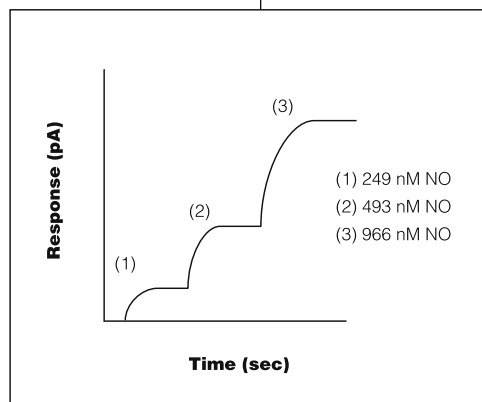

Fig. 7 —Apollo1000
- The output from the Apollo 1000 will look similar to the example shown in Figure 7: here three sequential additions of KNO₂ have been made to solution #1.